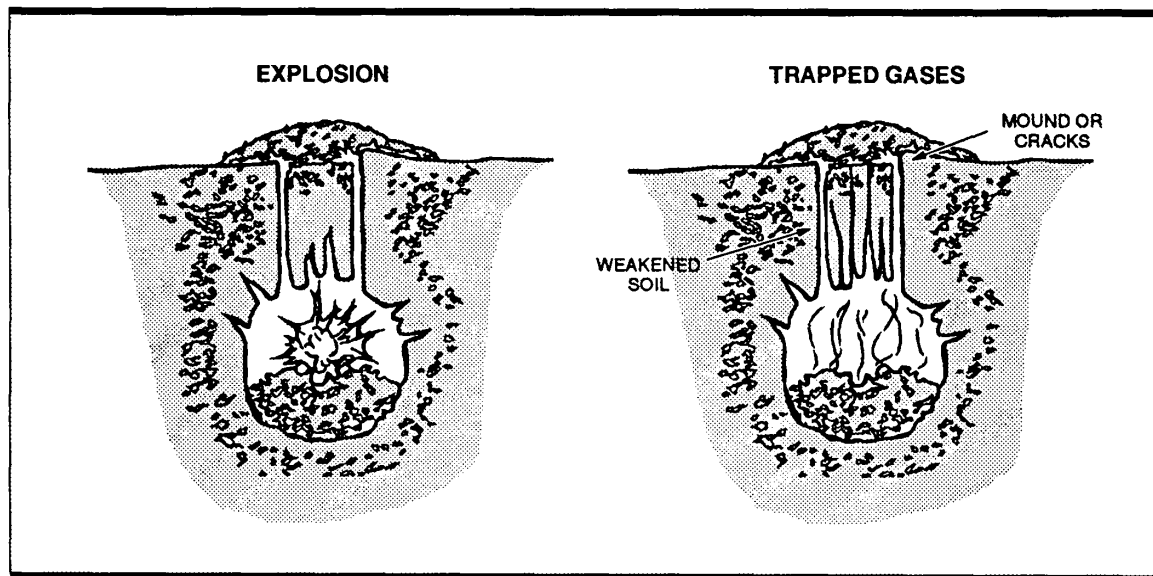

Figure I-2. Typical camouflet.
**Expendable Ordnance.** NBC contamination is not the only hazard associated with expended ordnance. The blast can damage structural integrity of buildings and loosen soil. Ordnance designed to function below the surface of the ground has a tendency to produce cavities known as camouflets. The formation of a camouflet is caused by the absorption of the explosive pressure into the soil as shown in Figure I-2. The round may travel so deep that the force of the explosive cannot rupture the soil covering it. This failure to rupture the surface may not seem very important; however, these camouflets contain concentrated carbon monoxide gas capped by an unstable layer of dirt. A soldier walking over a camouflet can fall through the crust and die from inhaling the toxic gases. Identification of a possible camouflet is the best safety. Look for—